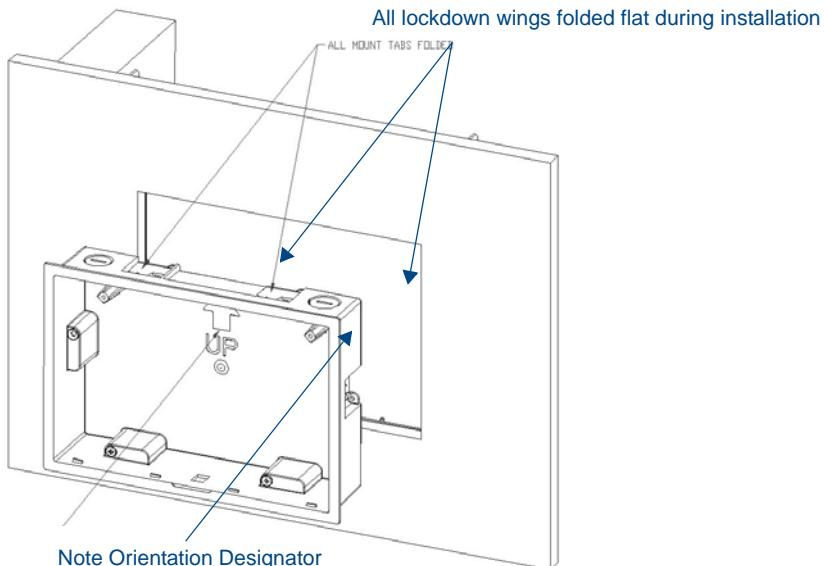

FIG. 11 Installation of plastic back box
4. Slide the plastic back box into the hole, being careful not to twist or pinch the cable, and set it flush with the wall (FIG. 11).